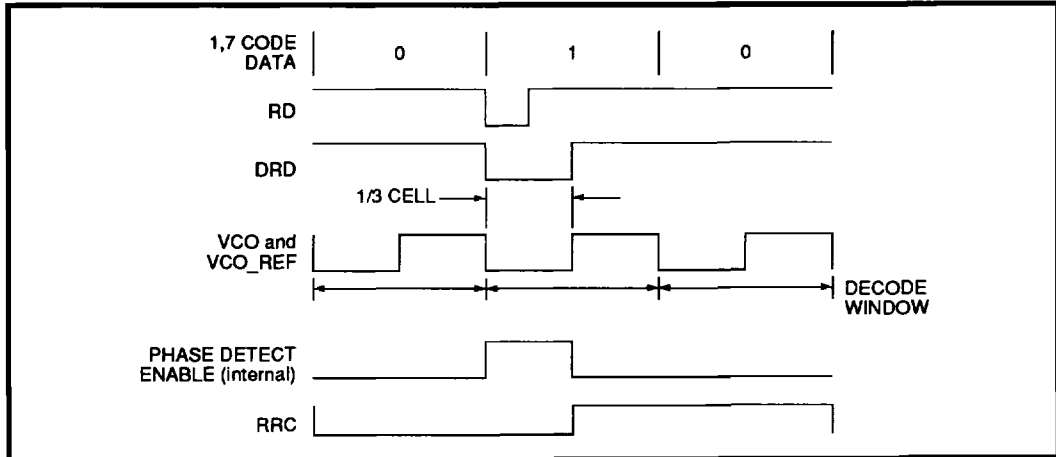

FIGURE 12: Data Synchronization Waveform
The data synchronizer utilizes a fully integrated fast acquisition PLL to accurately develop the decode window. Read gate (RG) initiates the PLL locking sequence and selects the PLL reference input; a high level (read mode) selects the internal RD input and a low level selects the reference clock. In the read mode the falling edge of DRD enables the phase detector while the rising edge is phase compared to the rising edge of the VCO reference (VCOR.) As depicted in Figure 12, $\overline{\text{DRD}}$ is a 1/3 NRZ bit cell wide pulse whose leading edge is defined by the falling edge of $\overline{\text{RD}}$. A decode window is developed from the VCOR clock.